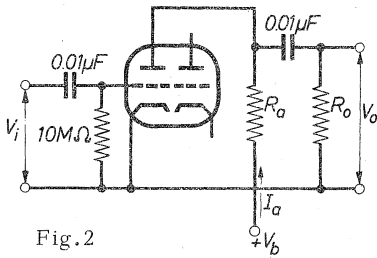

Fig. 2
A.F. amplifier Fig.2 see page 9 Input source resistance = 100  $\Omega$